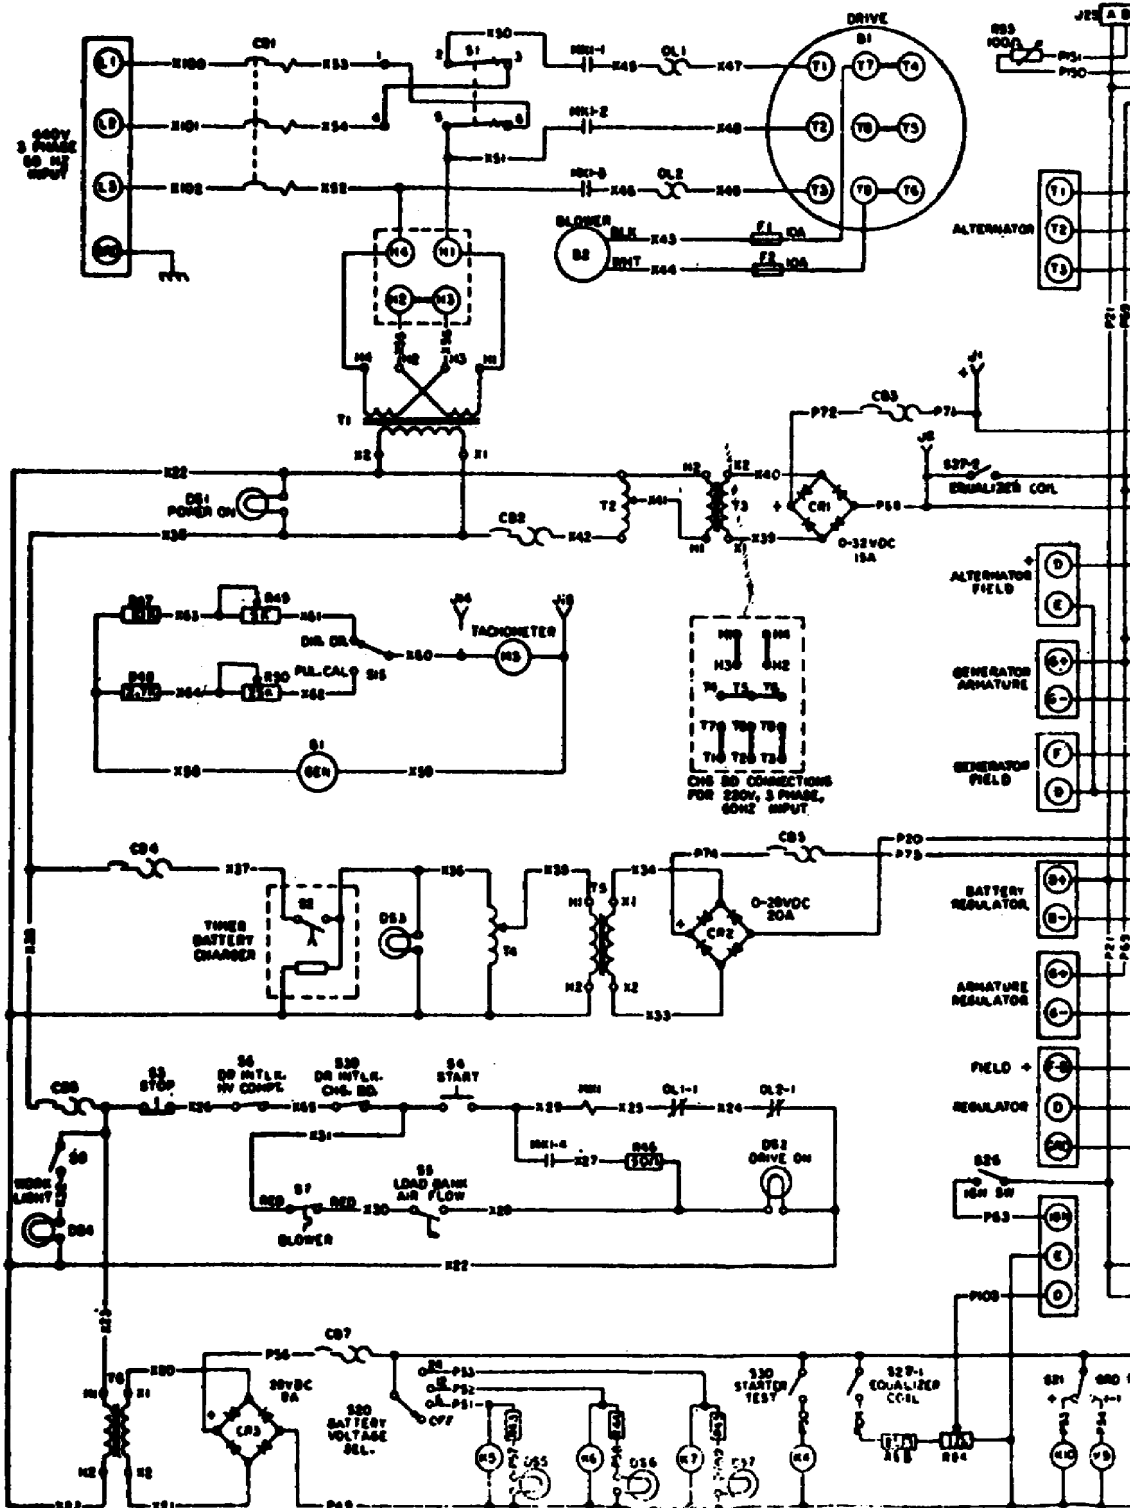

Figure 14.
d. The electrical wiring diagram (fig 14) is included at this point so that you can familiarize yourself with the location of all the components we have discussed in this lesson. Locate the items discussed but do not study the diagram extensively at this time. Selected circuits will be discussed in following lessons.